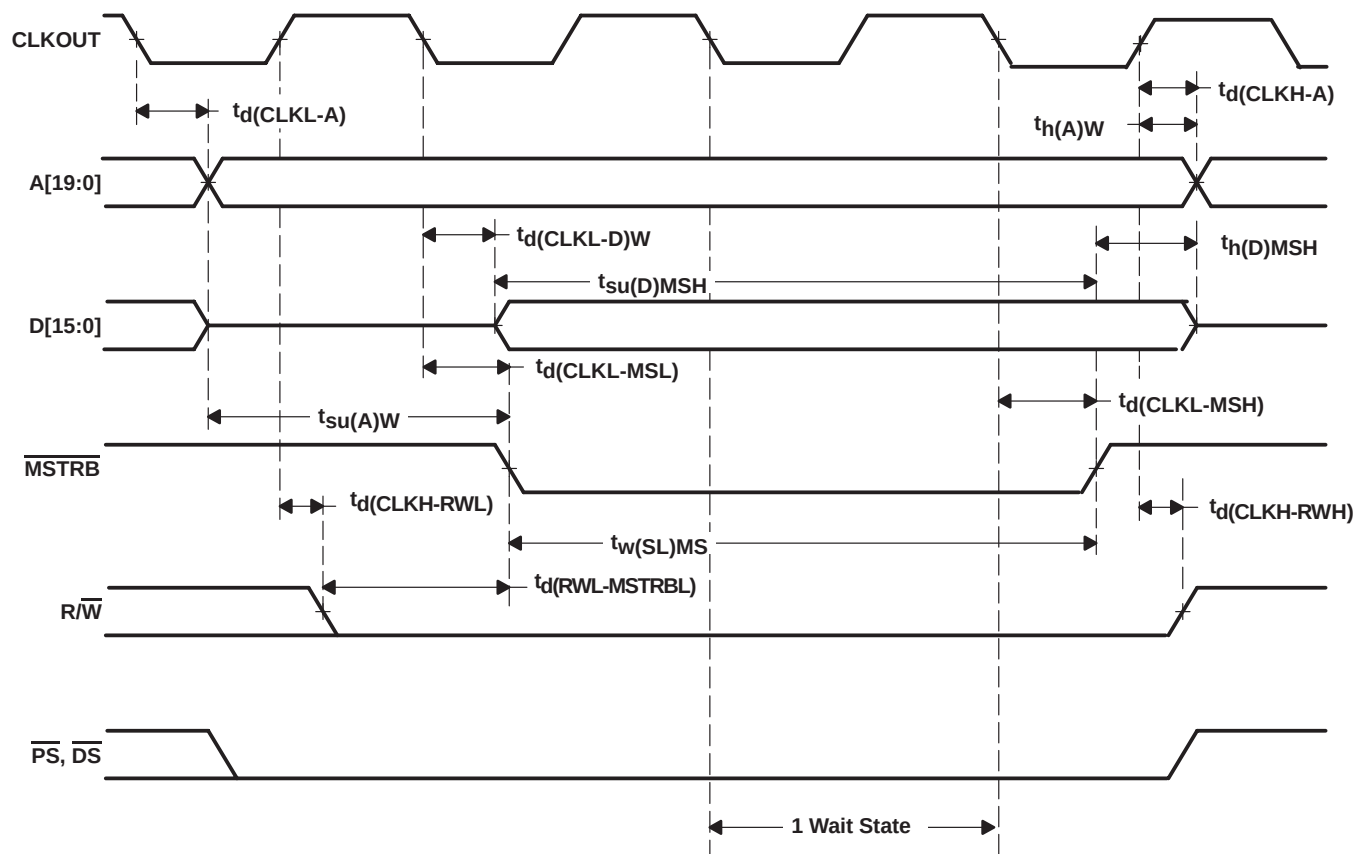

Figure 14. Memory Write ( $\overline{\text{MSTRB}} = 0$ )
**switching characteristics over recommended operating conditions for a memory write ( $\overline{\text{MSTRB}} = 0$ ) [ $H = 0.5 t_{c(CO)}$ ]† (see Figure 14)**
**timing requirements for a memory write ( $\overline{\text{MSTRB}} = 0$ ) [ $H = 0.5 t_{c(CO)}$ ]† (see Figure 14)**